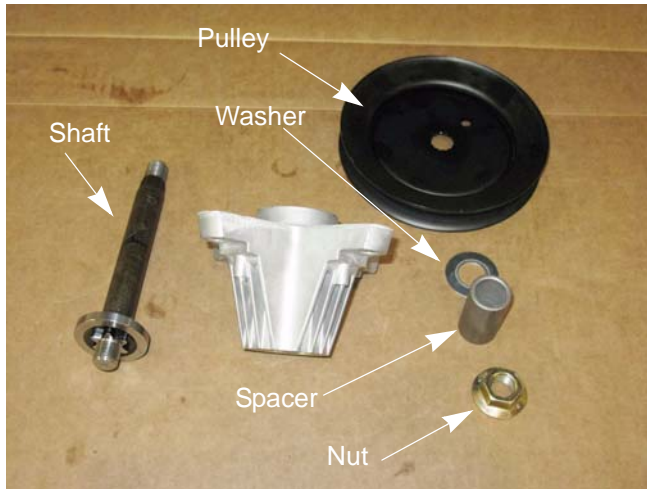

Figure 7.19
3. Slide the spindle shaft and pulley out of the spindle housing. See Figure 7.19.